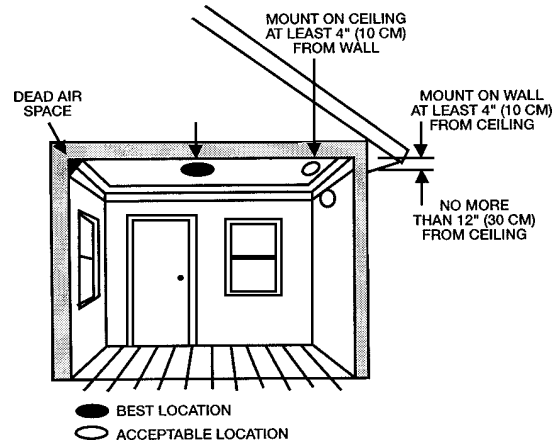

Figure 4: RECOMMENDED SMOKE ALARM MOUNTING LOCATIONS
- In dead air spaces at the top of a peaked roof or in the corners between ceilings and walls. Dead air may prevent smoke from reaching an alarm. See Figures 4 and 5 for recommended mounting locations.